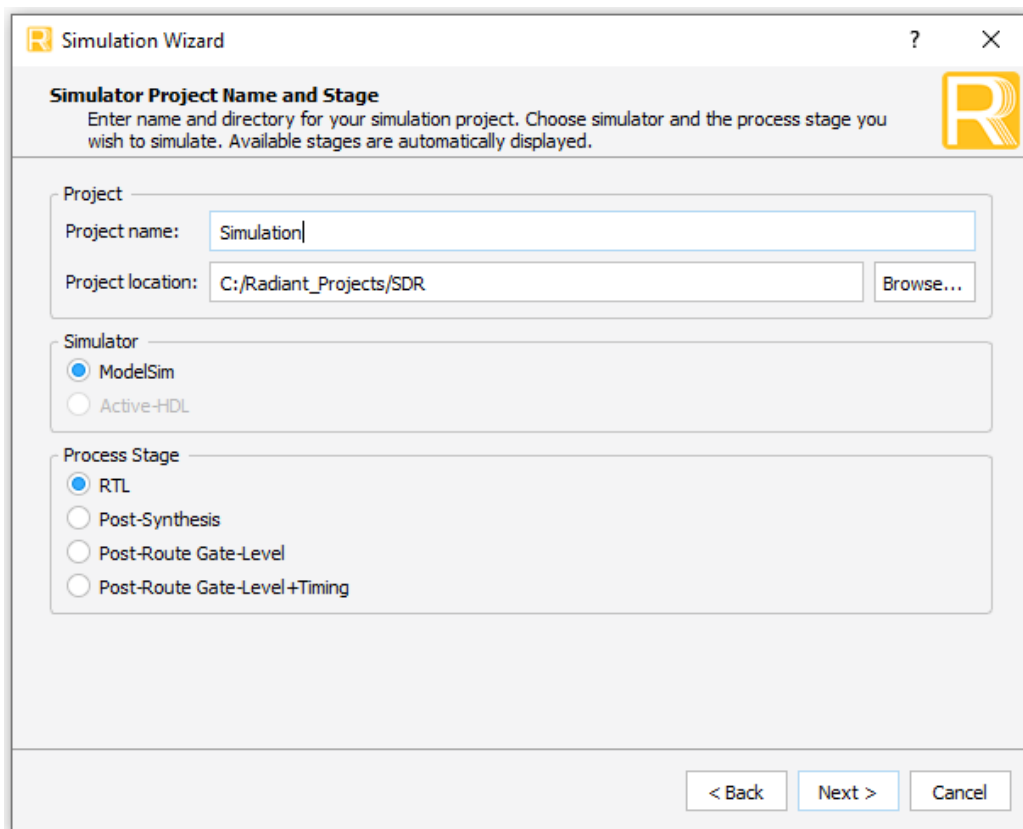

Figure 3.4. Simulation Wizard
1. Click the  button located on the **Toolbar** to initiate **Simulation Wizard**, as shown in Figure 3.4.